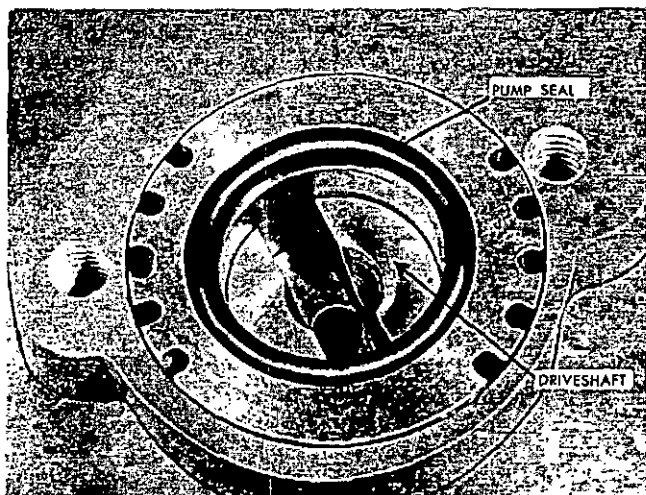

Figure 124—Eccentric bushing, showing pump seal and shaft
5. Install the seal ring on the eccentric bushing adapter and place the pump in position on the engine. (Fig. 124.)